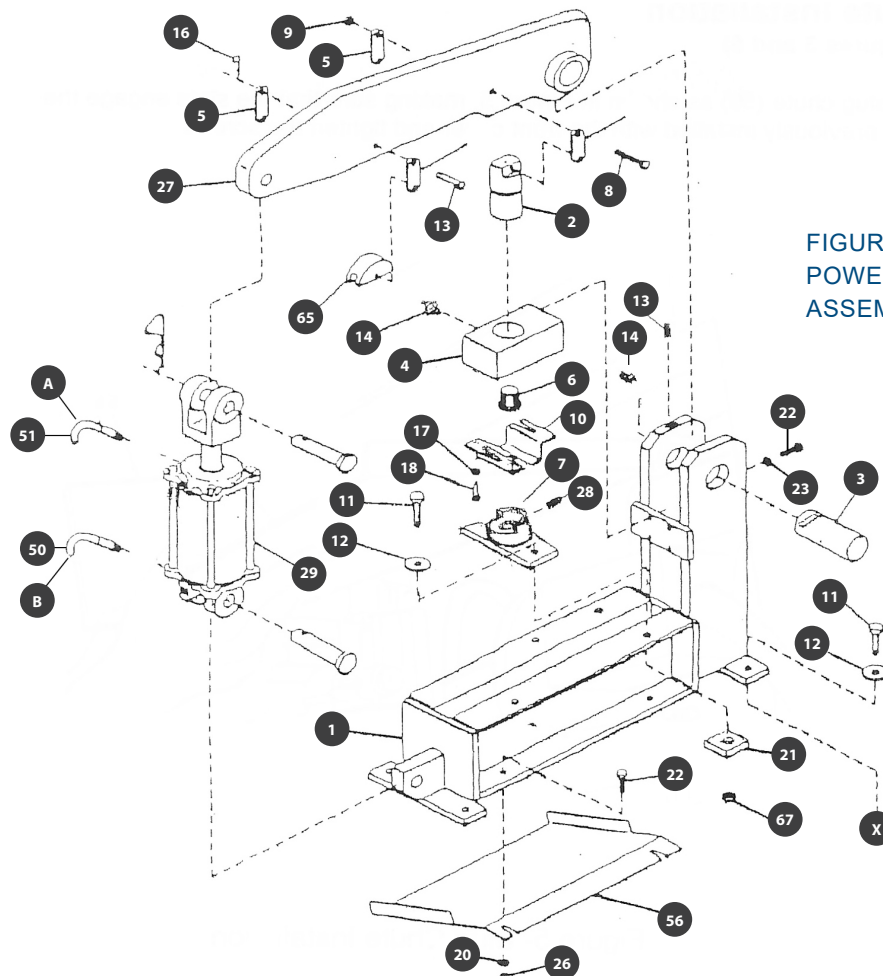

FIGURE 2:
POWER HEAD – Refer to Figure 2
Refer to Figures 2 & 4 to position the slug chute (56), making sure that the slots engage the $\frac{3}{8}$ " -16 x $\frac{5}{8}$ " hex head screws previously installed with the front cover and tighten the screws.
REPLACING LINKS AND CLEVIS PINS (Refer to Figure 2: Power Head Assembly, page 8)